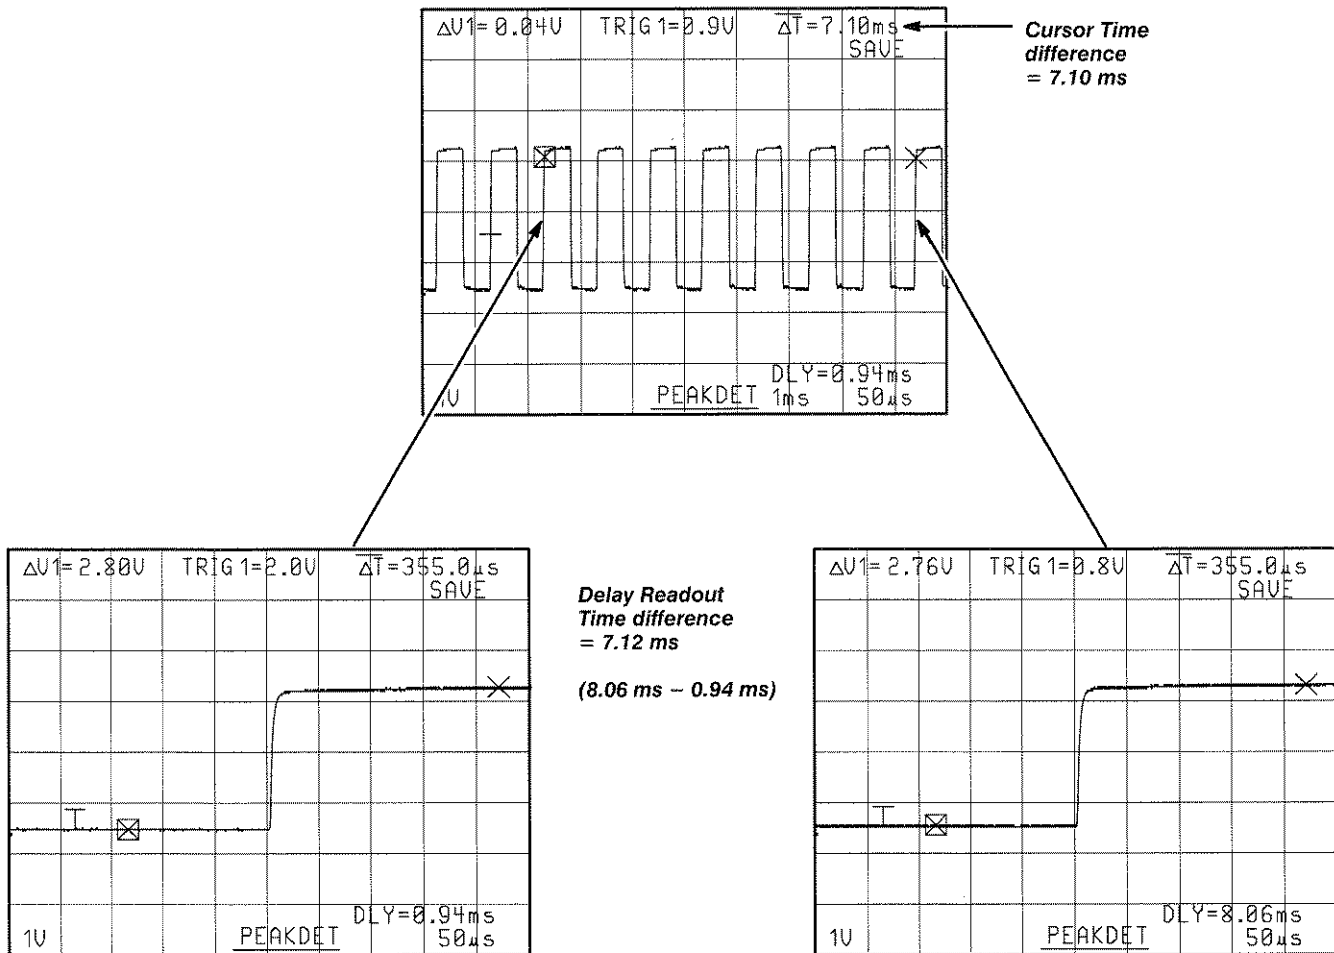

Figure 3-36: Delay Time Readout Difference
- ☐ **Step 3:** Adjust the **B DELAY TIME POSITION** control to move the intensified zone to the leading edge of the first horizontal point on the **A** trace; then fine-adjust until the rising portion on the **B** trace is aligned with any convenient vertical graticule line (Figure 3-36).